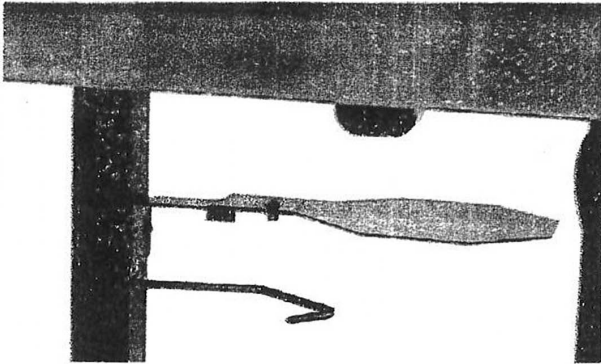

FIGURE 7
- 4- Using a 5/32" male hex driver, two (2) 5/32" button head screws, and two (2) washers, mount the Liquid Propane Valve Shield to the rear leg of the barbecue, as shown in Figure 7. The 90 degree bend is mounted in the " down " direction.